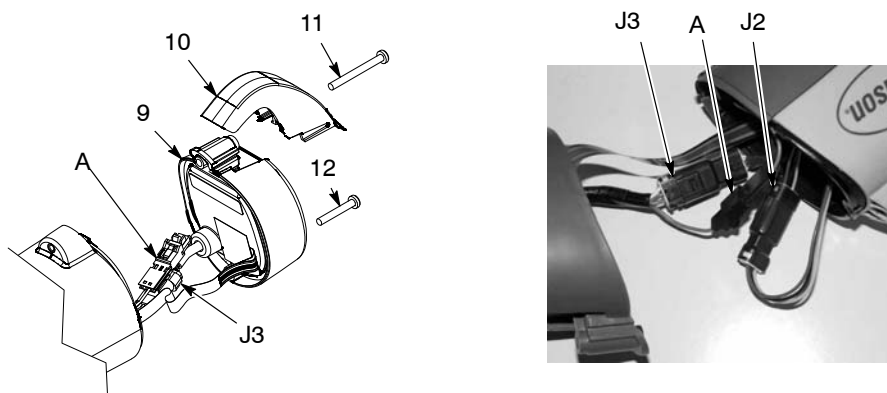

Figure 1 Removing the Display Module
5. See Figure 1. Unscrew the top screw (11) securing the hook (10) and display module (9) to the gun body.
6. Slide the hook off the display module (9).
7. Unscrew the bottom screw (12). Discard the two screws.
9. If the display module has a ground cable connector (A), disconnect it.
20. See Figure 1. Slide the hook (10) onto the display module, then install the bezel (11) included with the upgrade kit.
21. Secure the module with the screws (12) included with the upgrade kit.